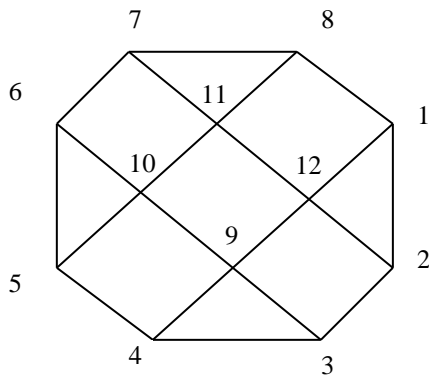

Figure 7a
5. (a) Two plates shown in **Figure 7a** and **7b**, shall be analysed as a plane strain problem. Both plates are divided into 9 elements. Each node has been labelled accordingly. Calculate the bandwidth, $B = (R+1)$ NDOF for the plate assuming two degrees of freedom at each node.